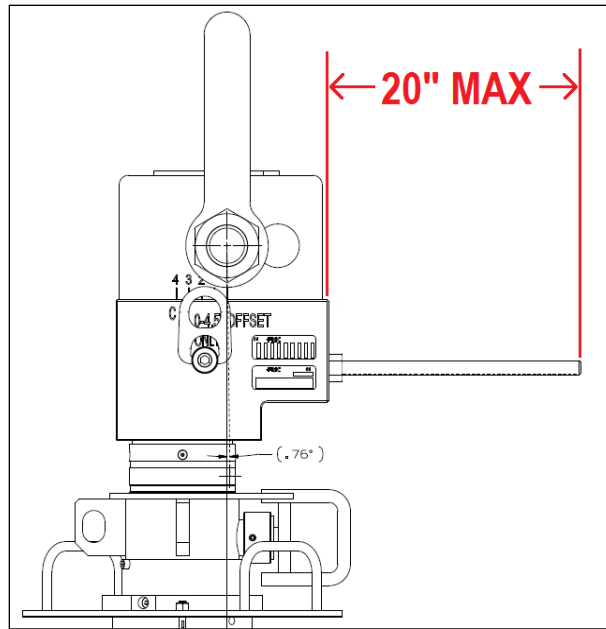

Figure 10: Rods Measurement
2. Measure the threaded rod protrusion and confirm that the measurement is LESS THAN 20.0 inches. See Figure 10.